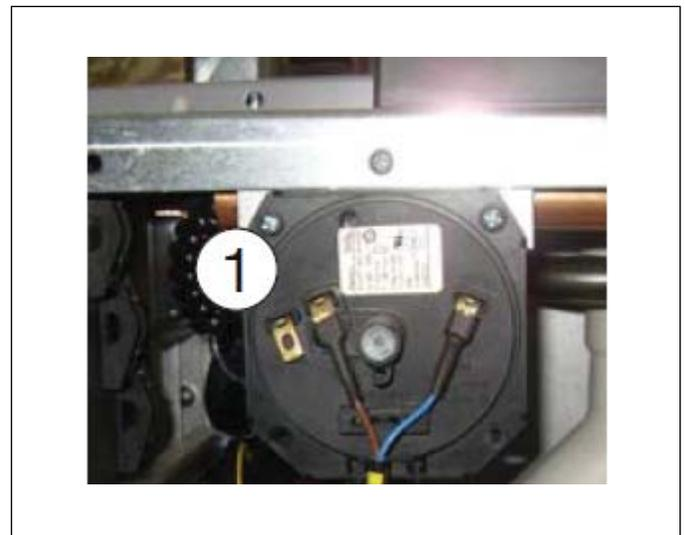

Figure 1
3. Locate the existing flue pressure differential switch towards the top of the boiler (see Fig.1).